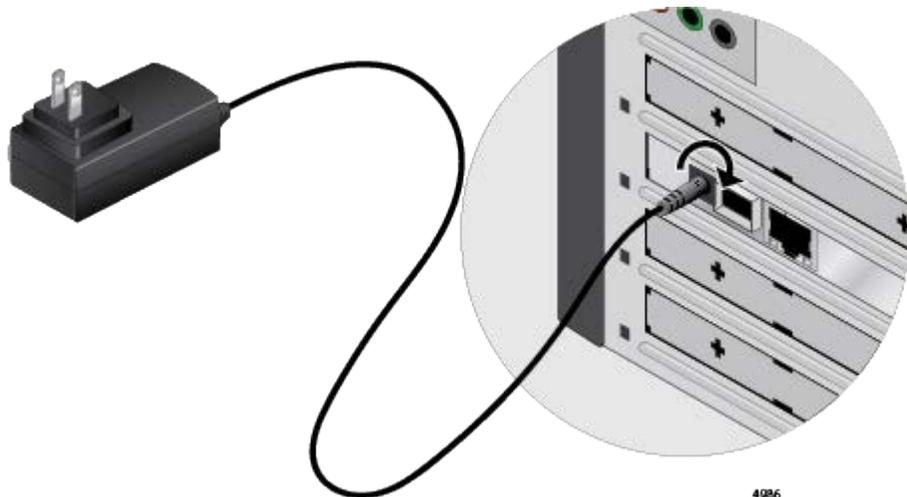

Figure 16. Connecting Power Cord to the Network Adapter
2. Insert the 2914GP-PSU power cord connector to the front panel of the 2914GP/SP network adapter and turn the connector clockwise. See Figure 16.